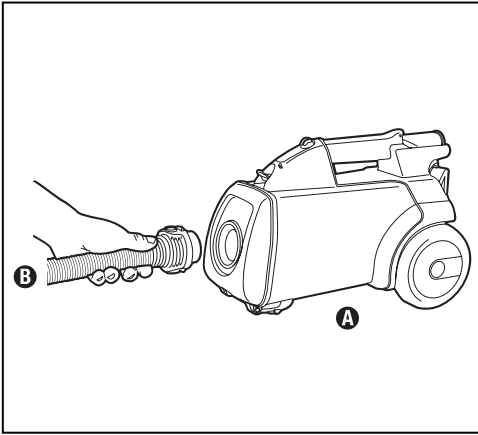

Fig.1
- Step 1:** Connect hose **B** to front of canister **A** (Fig.1).